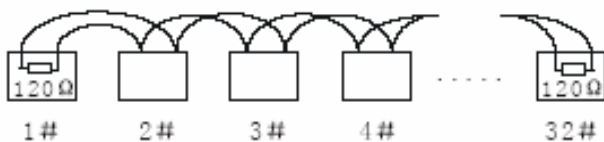
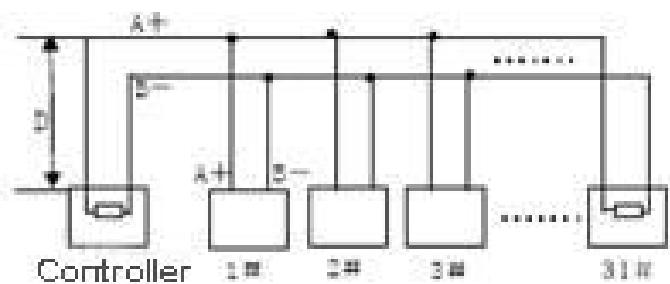

Fig 26
Fig 27
As shown in fig. 26 and fig. 27 is simplified connection, but the distance of part "D" shall not beyond 7 meters.
2.2 120Ω terminal resistance is connected as shown in fig 27.